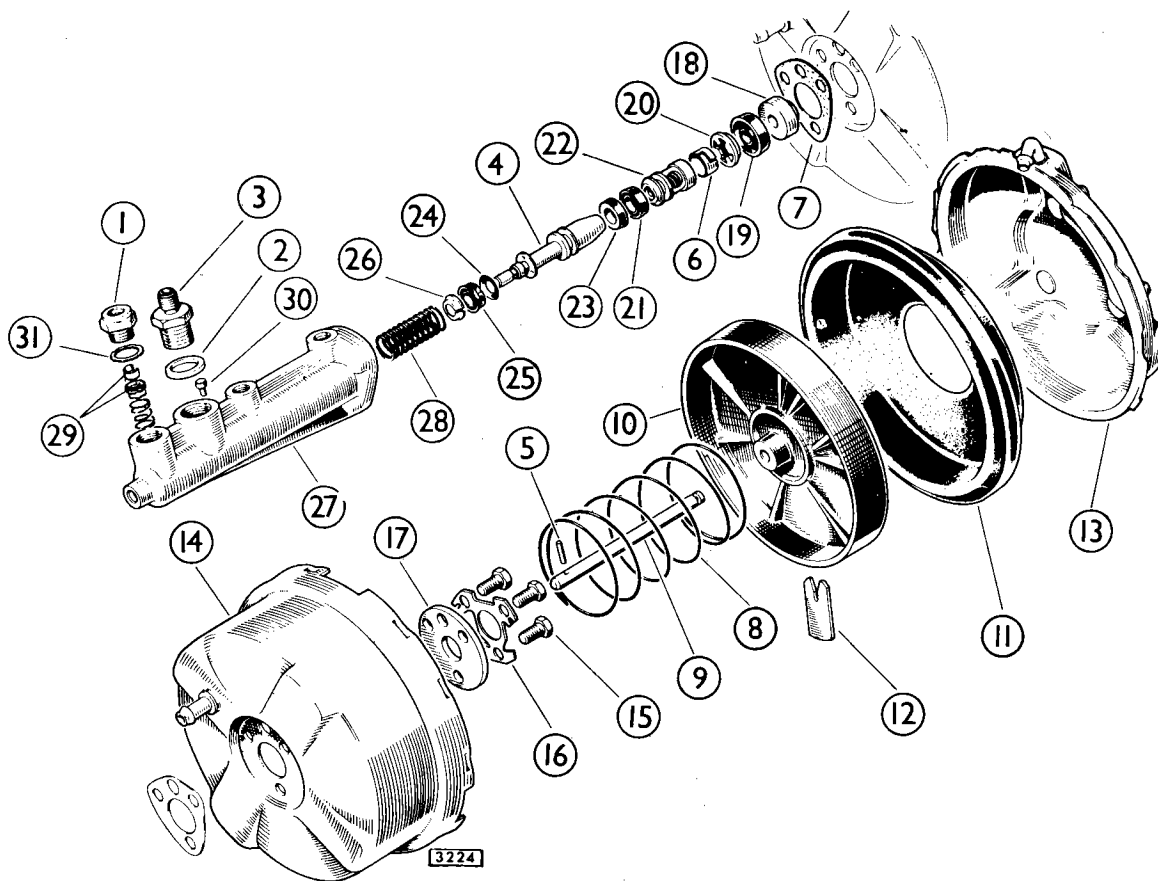

Fig. 2. Exploded view of the remote servo.
**THE REMOTE SERVO (Fig. 2)****Dismantling**